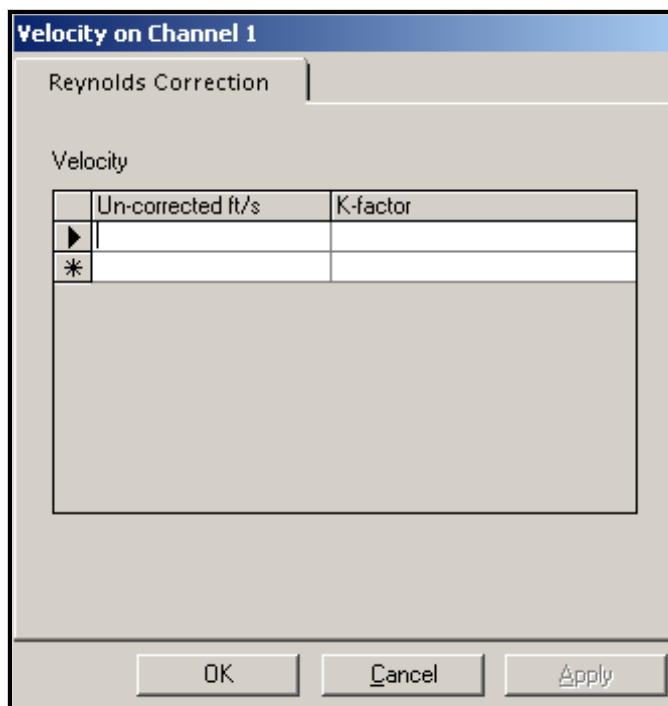

Figure 35: *PanaView*™ Velocity Correction Display
4. Click twice on Vel and the Velocity display appears (see Figure 35 below).